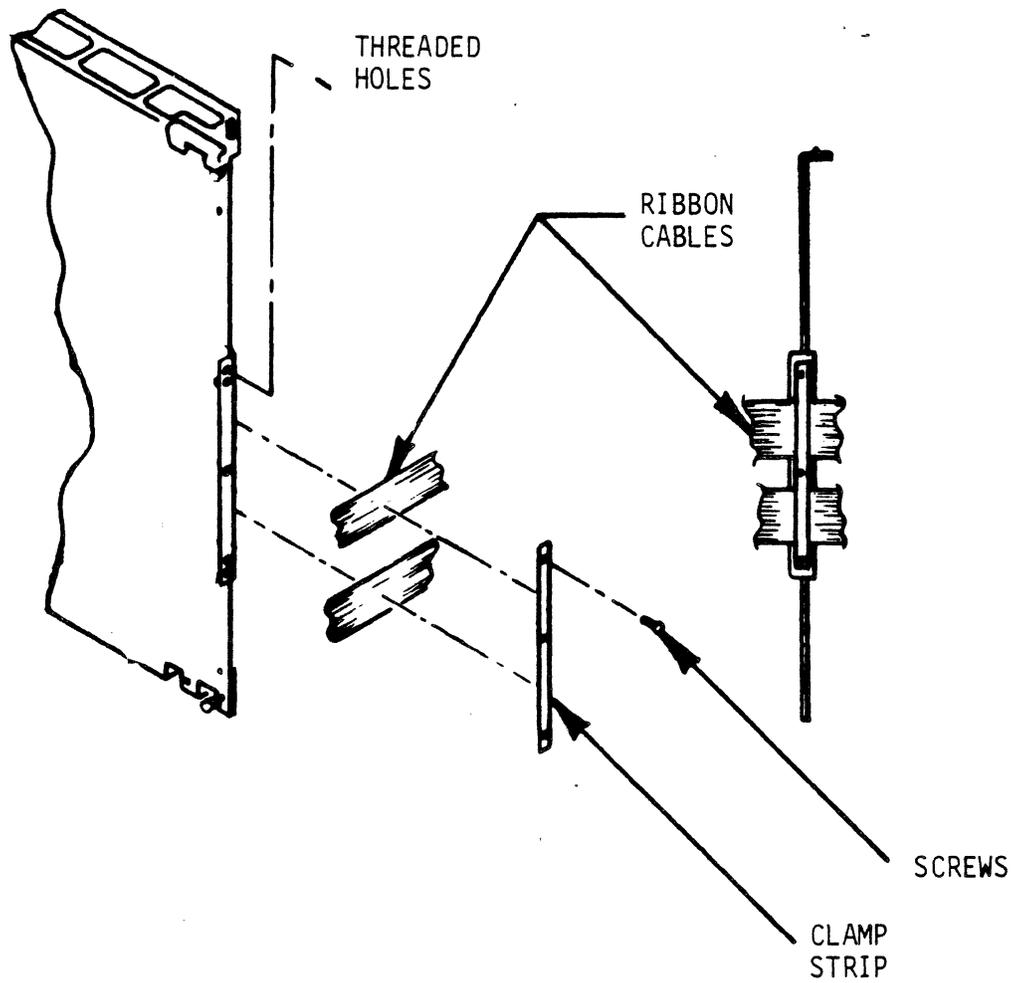

Figure 3-32. I/O Ribbon Cable Instructions
4. Place the ribbon cables against the logic cage bracket. Reference figure 3-32. Place the clamp strip over the cables and secure the clamp strip to the cable bracket with 3 screws and washers. Reference figure 3-32. Be sure the clamp strip and the cable bracket make good contact against the ground shield of the ribbon cables. The top and bottom threaded holes in the cable bracket provide additional grounding points, as required. Reference figure 3-32.